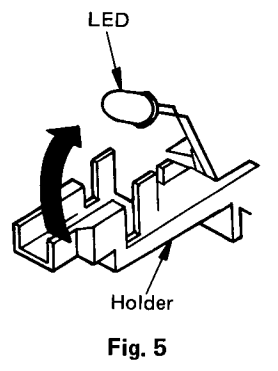

Fig. 5
3. Remove the LED from the holder, and raise the LED. (Fig. 5)